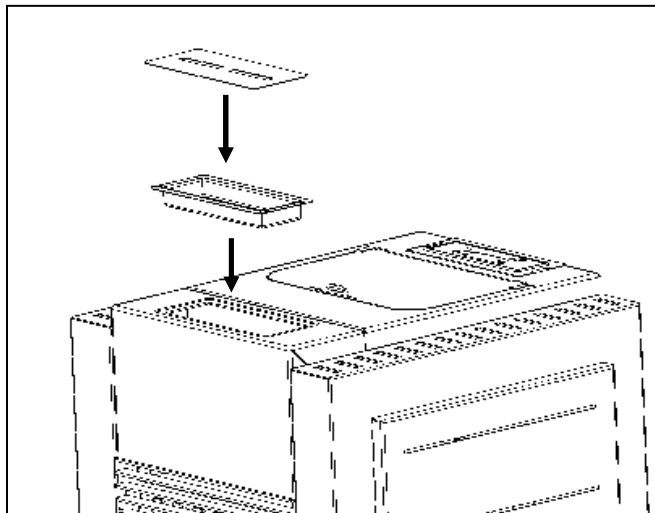

Figure 68 - Humidifier placement on the equipment
v) To complete the assembly of the equipment, insert the humidifier **(7)** and its cover **(8)** in the sequence shown in Figure 68 on top of the upper finishing face.